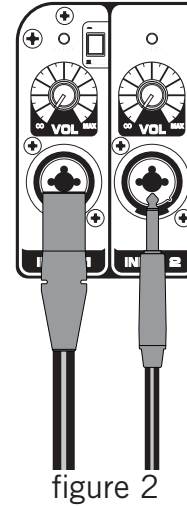

figure 2
4. Connect either a line level signal from your mixer (or other audio source) or a microphone to the Input 1 jack or a line level signal to the Input 2 jack on the Auro X12D/X15D rear panel (figure 2). If using a microphone, set the Mic/Line Switch to the microphone position.